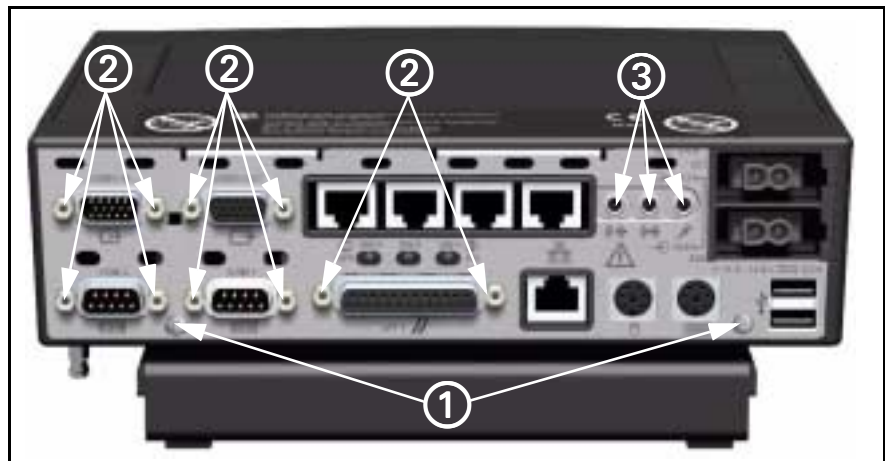

Figure 18-4 MDS rear view
9. Remove and save 2 Phillips-head screws (① in Figure 18-4), ten posts (② in Figure 18-4) and three nuts on auxiliary jacks (③ in Figure 18-4) that secure rear panel to MDS.